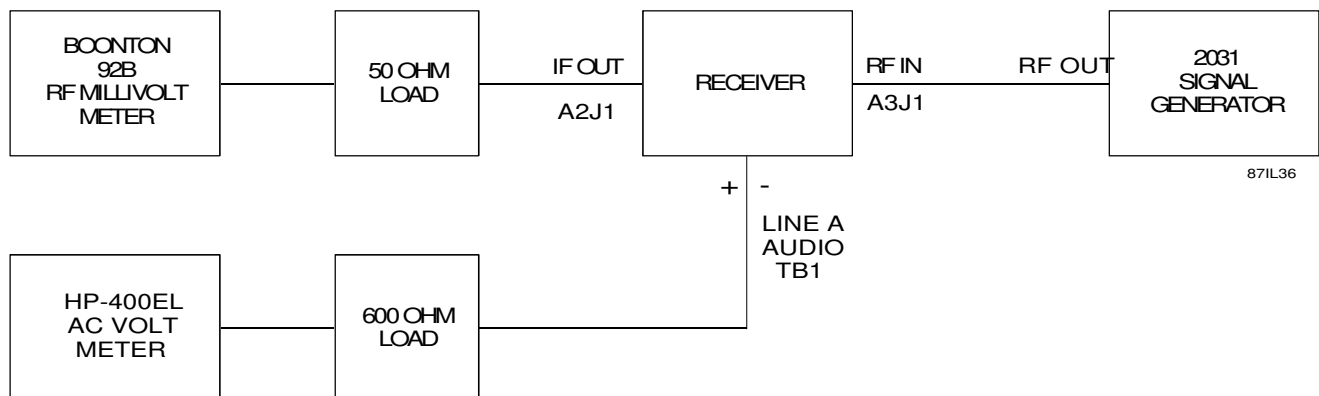

Figure 7-5. Receiver Sensitivity Performance Test Equipment Connection
1. Connect the WJ-8711A Receiver and test equipment as illustrated in **Figure 7-5**.